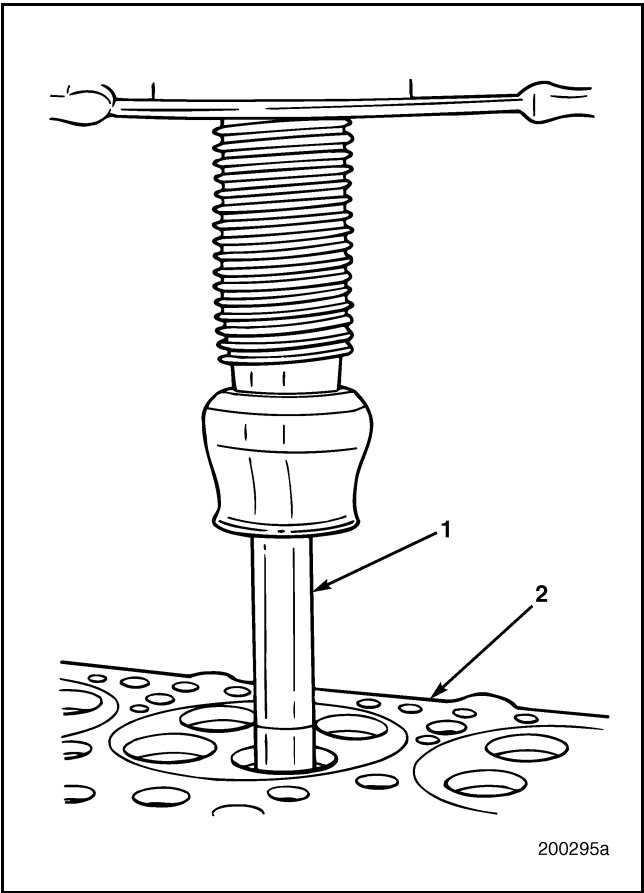

Figure 258 — Valve Guide Remover J 37482
1. Insert valve guide remover J 37482 into the valve guide from the deck side of the cylinder head (Figure 258).